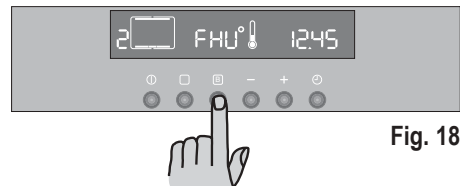

Fig. 18
- 4) Press button . The temperature display will show "FHU" (Fig. 18).